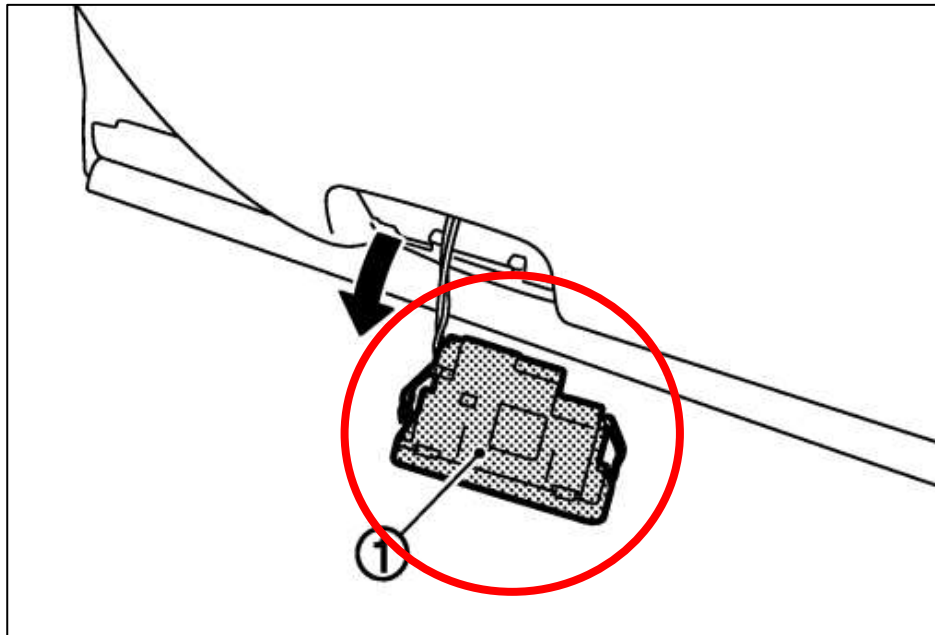

Figure 49
7. Remove the Step Lamp from the Door Panel. *Figure 49.*